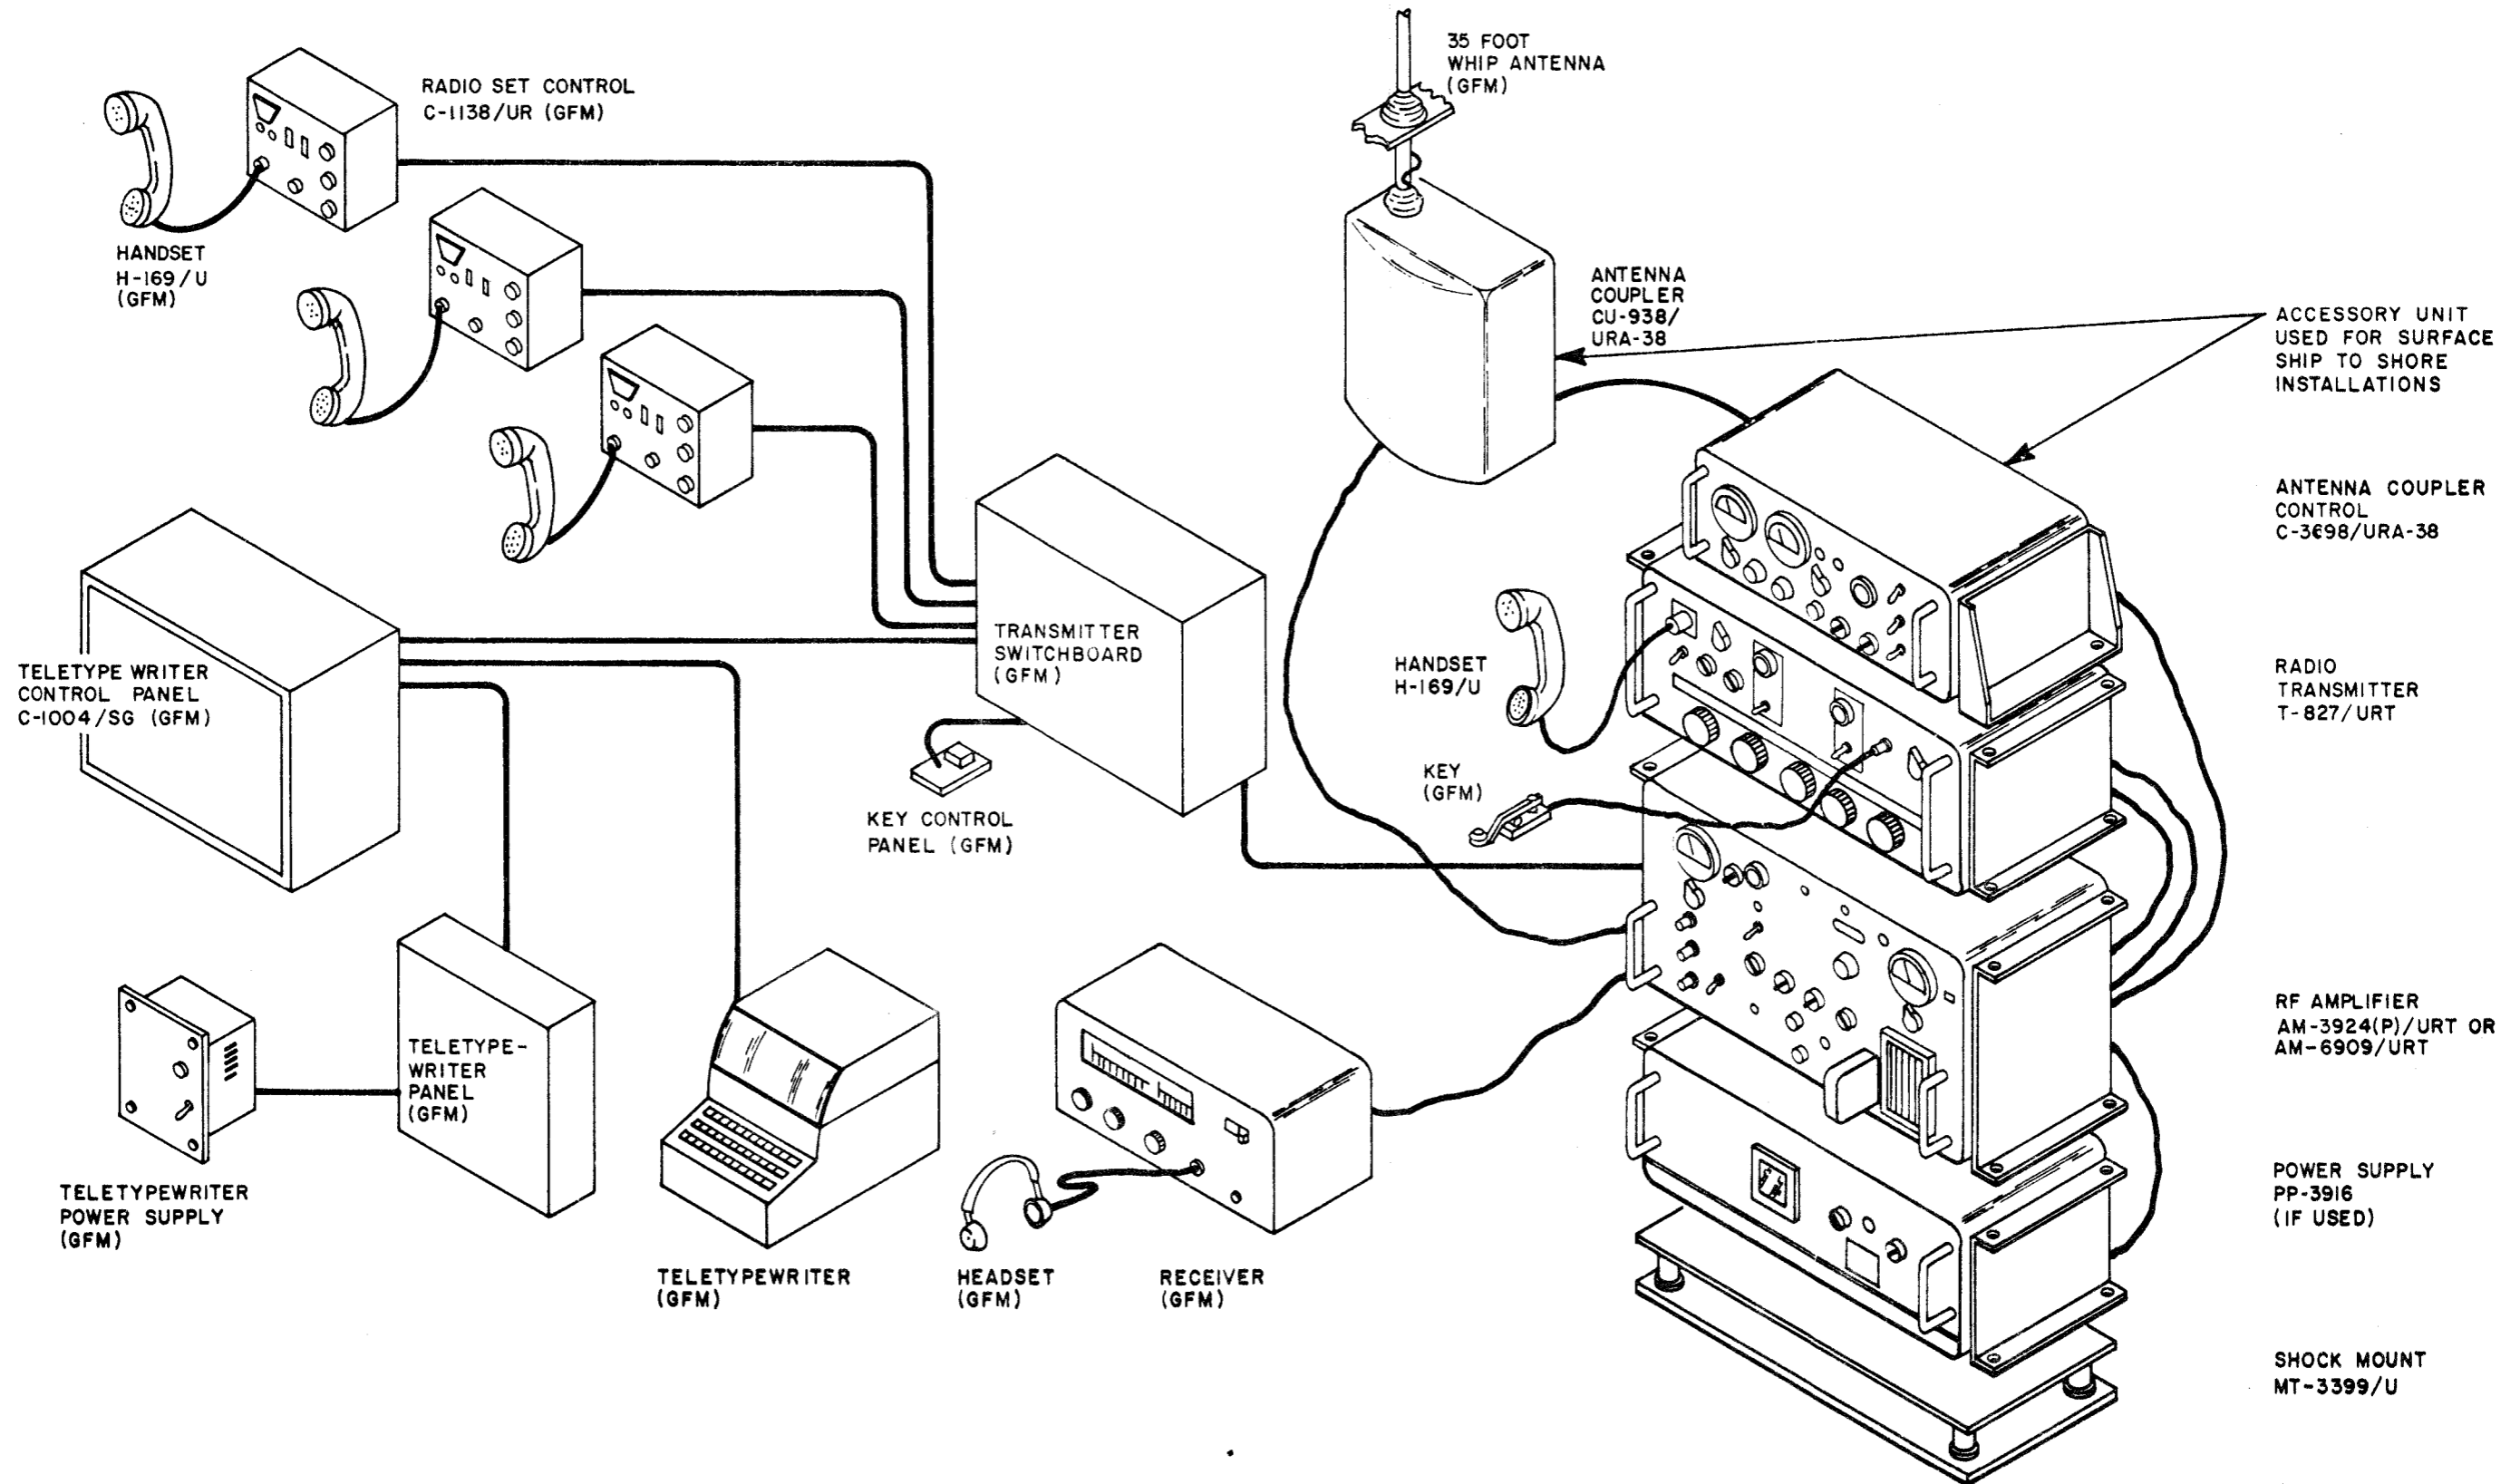

Figure 1-1. Typical Relationship of Units
1-6. The AN/URT-23(V) is a 1 KW single-sideband Radio Transmitting Set that can be supplied in any one of four possible configurations. The normal configuration will include Radio Transmitter T-827()/URT, and will be capable of general purpose voice, continuous wave, and radio teletypewriter transmissions in the 2.0 to 30.0 MHz frequency range. The exact spacing and number of channels available for operation in this configuration is dependent on the model of the T-827()/URT supplied as a part of the AN/URT-23(V) (paragraph 1-8). Stack or rack mounting may be used to install the units of the AN/URT-23(V) in a ship or shore fixed installation with other ancillary equipment to form a complete communications system such as that shown in figure 1-1. Any one of three three-phase primary power sources can be used to provide operating power to the AN/URT-23(V): 115 volts line-to-line, 400 Hz; or, 208 or 440 volts line-to-line, 60 Hz. The major units used to make up the four AN/URT-23(V) configurations are: Radio Transmitter T-827()/URT, Radio Frequency Amplifier AM-3924(P)/URT, Radio Frequency Amplifier AM-6909/URT, Power Supply PP-3916/UR or (optionally) Power Supply PP-3917/UR, and Electrical Equipment Shock Mount Base MT-3399/U. Hereinafter, these units will be referred to as the T-827()/URT, AM-3924(P)/URT, AM-6909/URT, PP-3916/UR, PP-3917/UR, and MT-3399/U, respectively.